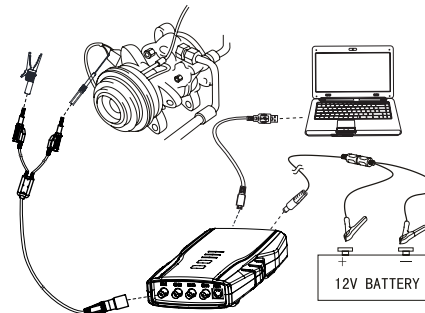

Fig. 42: Equipment connection
1. Connect equipment according to Fig.42 switch on power supply.